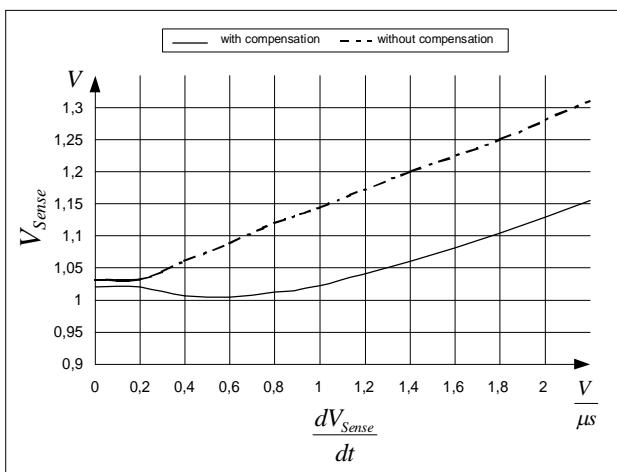

Figure 11 Overcurrent Shutdown
E.g. $I_{peak} = 0.5A$ with $R_{Sense} = 2$. Without Propagation Delay Compensation the current sense threshold is set to a static voltage level $V_{csth}=1V$. A current ramp of $dI/dt = 0.4A/\mu s$, that means $dV_{Sense}/dt = 0.8V/\mu s$, and a propagation delay time of i.e. $t_{Propagation\ Delay} = 180ns$ leads then to an I_{peak} overshoot of 14.4%. By means of propagation delay compensation the overshoot is only about 2% (see Figure 11).